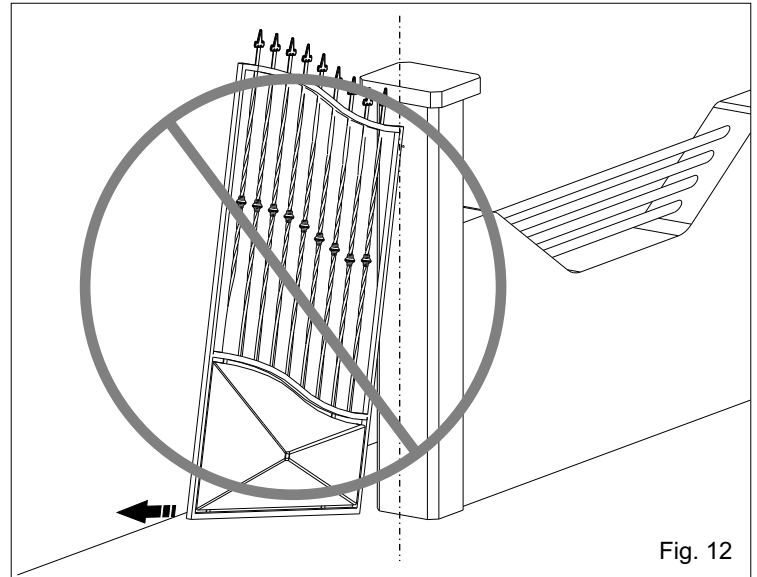
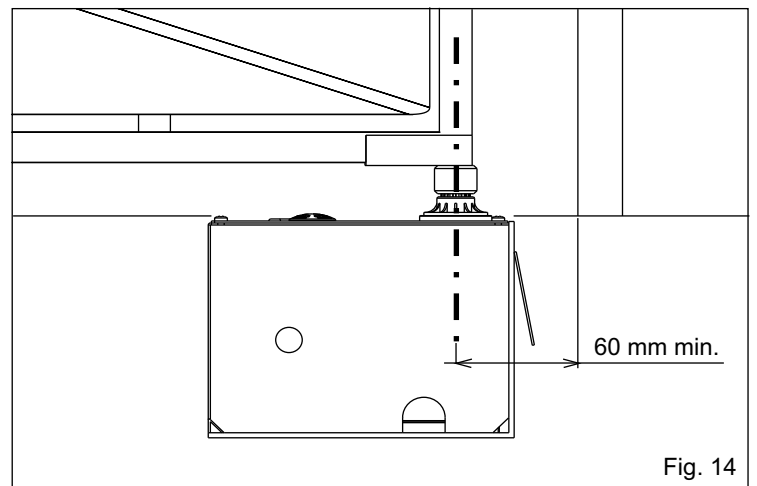

Fig. 12
Fig. 14
**3.8.** Be careful not to place the leaf outside the axis (Fig. 12 and 13), but make sure the shaft corresponds to the hinge rotation axis remembering that the minimum distance from the pillar is 60 mm (Fig. 14).